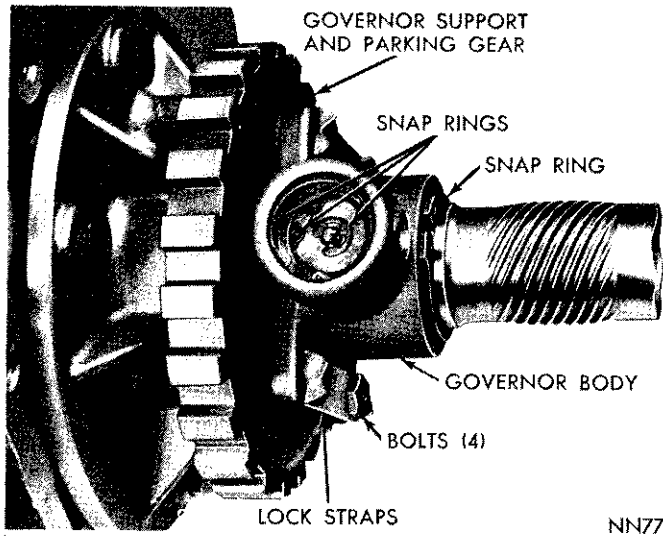

Fig. 25—Governor Shaft and Weight Snap Rings
(1) Remove extension housing and output shaft bearing.
(2) Carefully pry snap ring from weight end of governor valve shaft (Fig. 25). Slide valve and shaft
(2) Position support and governor assembly on output shaft. Align assembly so governor valve shaft hole in governor body aligns with hole in the output shaft, then slide assembly into place. Install snap ring behind governor body (Fig. 25). Tighten body to support bolts to 100 inch-pounds. Bend ends of lock straps over the bolt heads.
(3) Assemble governor weights and spring, and secure with snap ring inside large governor weight. Place weight assembly in governor body and install snap ring.
(4) Place governor valve on valve shaft, insert the assembly into body and through governor weights. Install valve shaft retaining snap ring. Inspect valve and weight assembly for free movement after installation.
(5) Install output shaft bearing and extension housing.